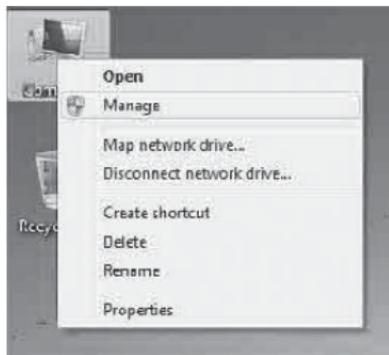

Figure 3
1. Right click **My Computer** or **Computer**, then click **Manage**, see **Figure 3**.